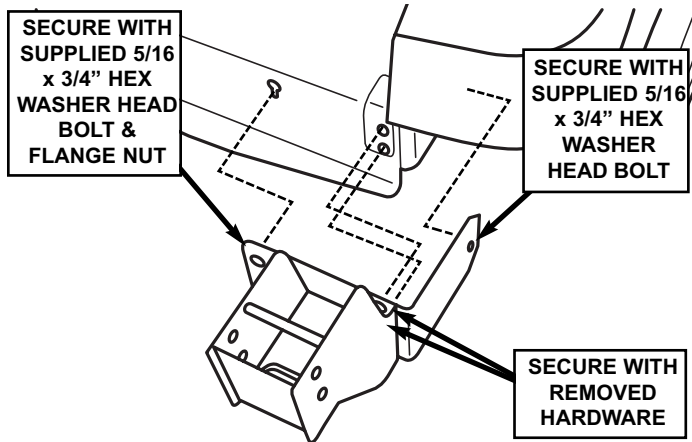

FIGURE 9
b. Install the catcher support onto the unit, securing with the hardware noted in Figure 9. Tighten all hardware securely. **NOTE:** Be sure to reinstall any components that may have been removed when removing the hardware in Step 7a.